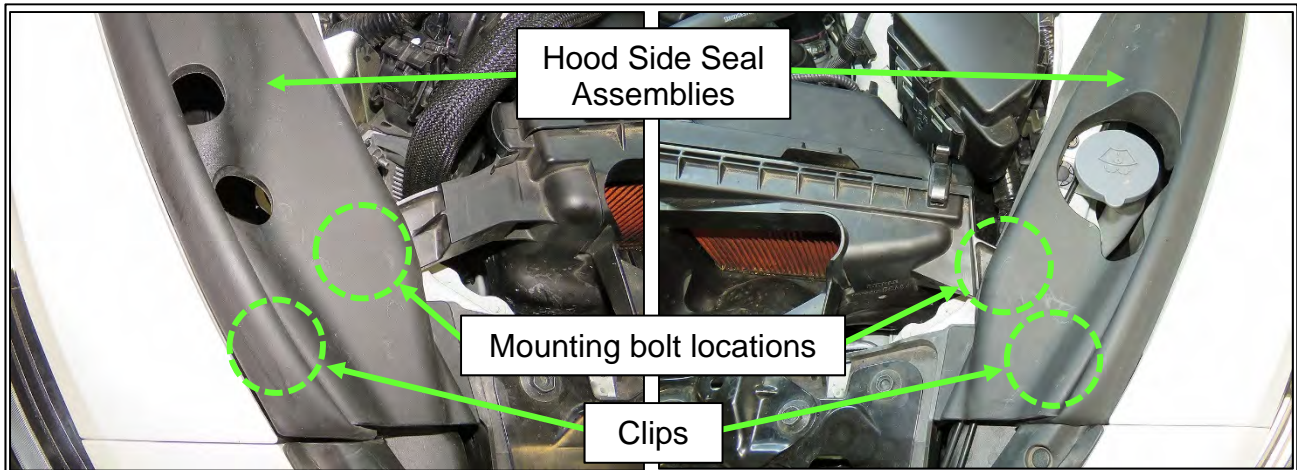

Figure 20
31. Unclip the first clip of the passenger (RH) side and the driver (LH) side Hood Side Seal Assemblies, to allow access to the Air Cleaner Body (bank 1) and Air Cleaner Body (bank 2) mounting bolts (Figure 20).